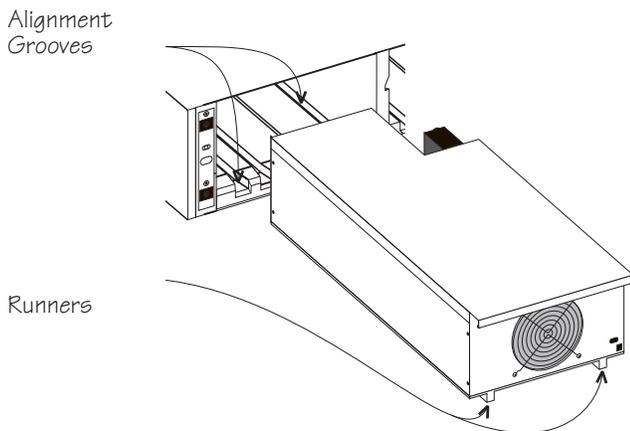

Fig 5-7 Power Module Alignment Grooves and Runners
**Note:** There are two alignment grooves molded into each power module bay. These correspond with runners on the bottom of each power module. See figure 5-7.